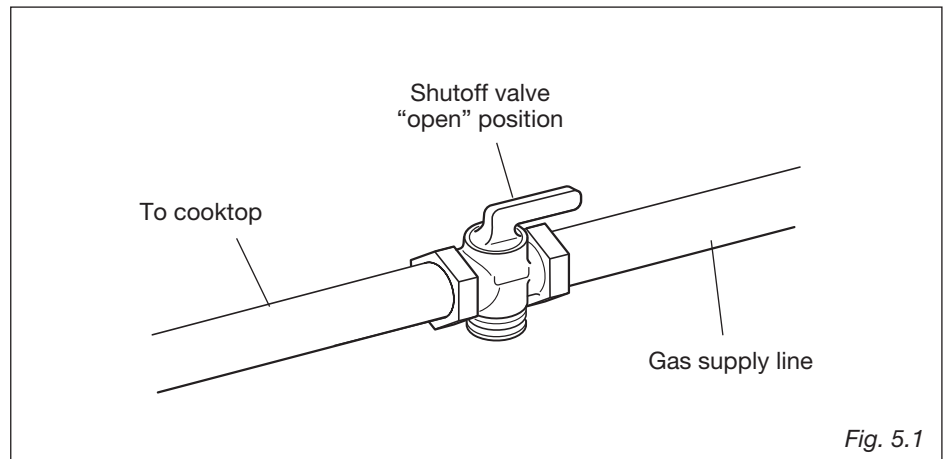

Fig. 5.1
1. Manual Shut-off Valve (fig. 5.1):